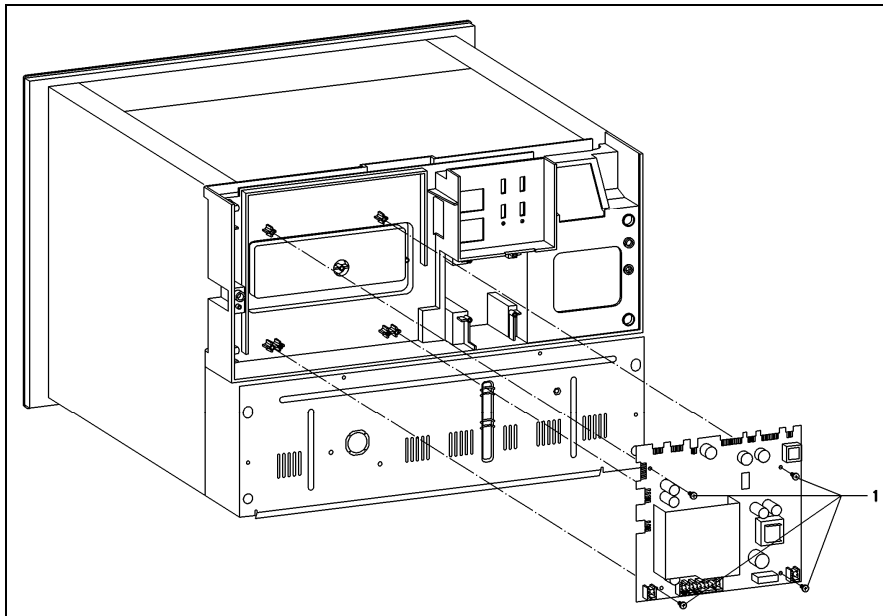

Figure 5-32: Power Electronic and Screws
3. Remove the screws securing the power electronic (Figure 5-32, Item 1).